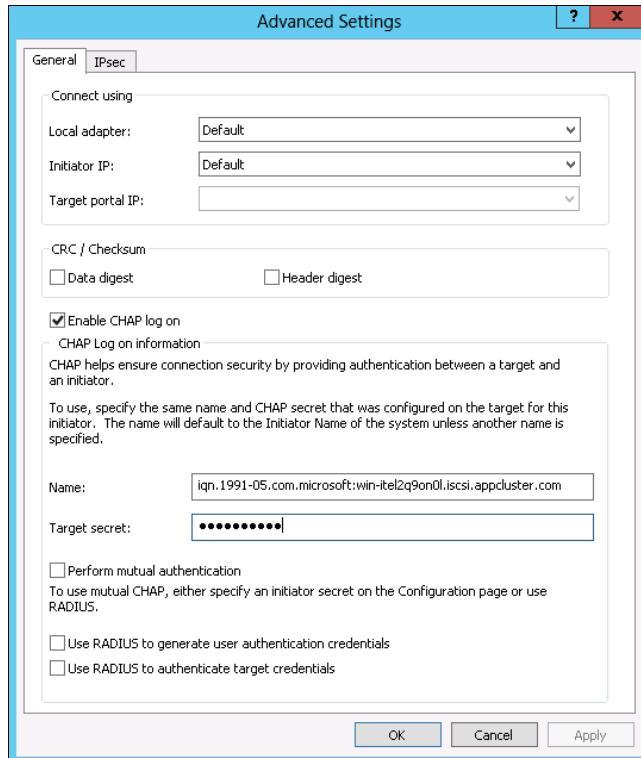

Figure 5-9 CHAP configuration on Windows host
- Enter a value for the User name & Target secret, as shown in Figure 5-9. The user name must be the iSCSI qualified name (IQN) of the iSCSI host. The target secret must be a value of 12 characters. This value is the same value that you set with the **chhost** command on the IBM Storwize storage system for this host. After you enter all the required information, click **OK**.